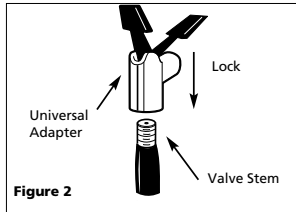

Figure 2
- Attach the universal adapter (see Figure 2) from the inflator to the valve stem with the lever in the up position. Be sure to press universal adapter down over valve stem threads completely. When universal adapter is firmly in place, press locking lever down to lock onto valve stem.